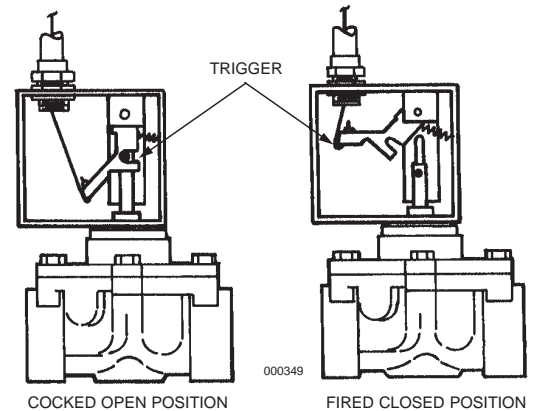

FIGURE 5-48
13. Cock mechanical gas valve as shown in Figure 5-48. **Note:** A valve cocking tool is available. Order Part No. 416018.